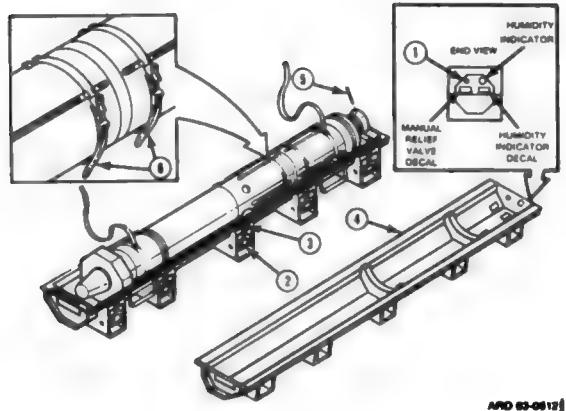

Figure 211.44. Unpackaging round from container.
(2) Open only those containers whose humidity indicator card shows under 40 percent relative humidity (40 percent sector must be colored blue, 30 percent sector may be blue or pink), and only when a fire mission is planned or anticipated. If the 40 percent humidity sector is pink, turn complete item in to battalion ammunition section. Keep all packaging materials in the container. A protective bag is provided inside each container. When mission requirements dictate a need, the M712 projectile may be removed from the shipping and storage container and placed in the protective bag. The protective bag will protect the round against direct effects of water, sunlight, dirt, and debris. However, it will not protect the round from the elements for more than 72 hours at a time. Repackage unfired projectiles within 72 hours and turn in to battalion ammunition section. Projectiles must be repackaged for vehicular transportation. Cannoneers No. 2 and 7 will unpack the M712 projectile (fig. 211.44) from its container as follows: